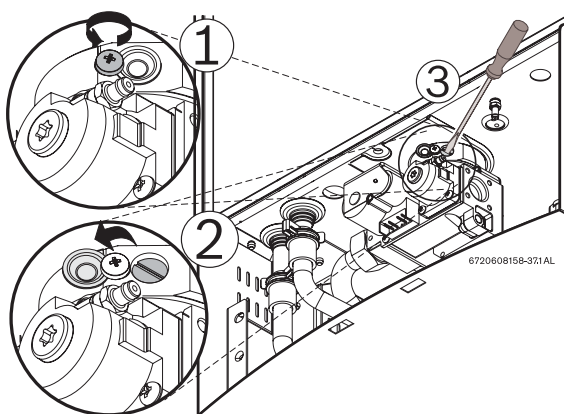

Fig. 55 Adjusting P1 CO2 level
- ▶ Loosen yellow painted philips screw (1) and cover should rotate down (2) revealing a recessed brass slotted screw. Fig. 55.